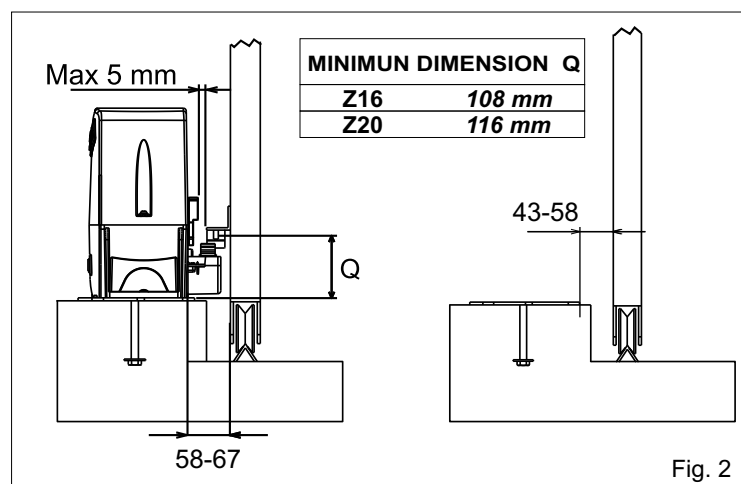
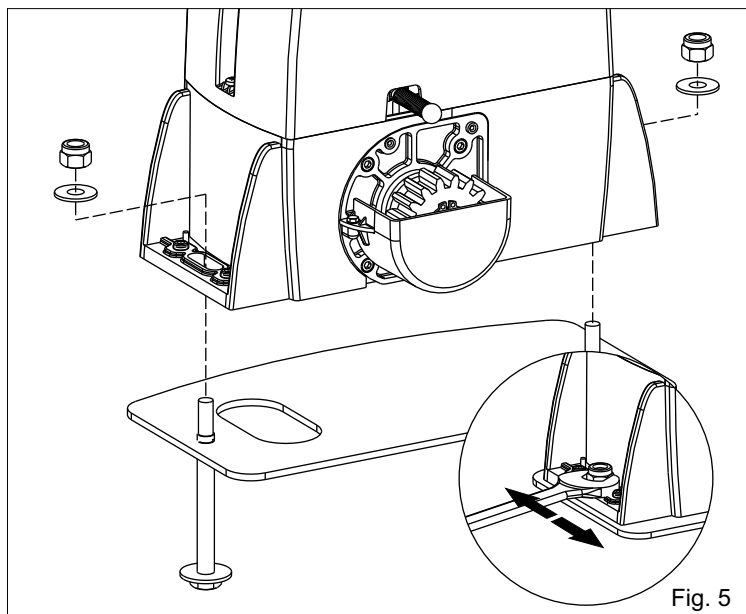

Fig. 2
Fig. 5
**2.3.** Before concreting in the plate, make sure that it is perfectly leveled and that the distance of 58-67 mm as shown in Fig. 2 is respected.
4.2. Fix the motor reducer to the foundation plate with the 2 included nuts, adjusting the side position (Fig. 5) so to respect the shown quota in (Fig. 2).